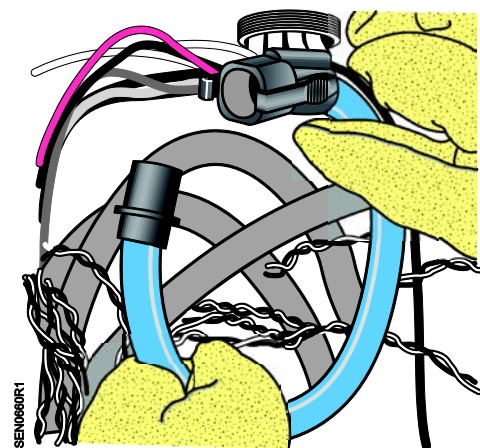

Figure 2. Install CT around Conductor.
2. Install the CT around the load conductor to be measured. Verify the CT is installed with the arrow on the black connector pointing towards load. See Figure 2.
3. Push the connector back together. The conductor should be in the inside of the CT Window. See Figure 2.